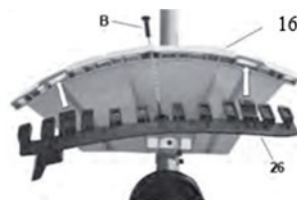

Fig.3-3
1. When using the nylon head, the additional guard must always be installed with the cutting blade. (Fig. 3-3, Fig. 3-4)
- Secure the additional guard (26) with the screw (B). (Fig. 3-3)
- Unscrew the screw (B); (Figure 3-3).